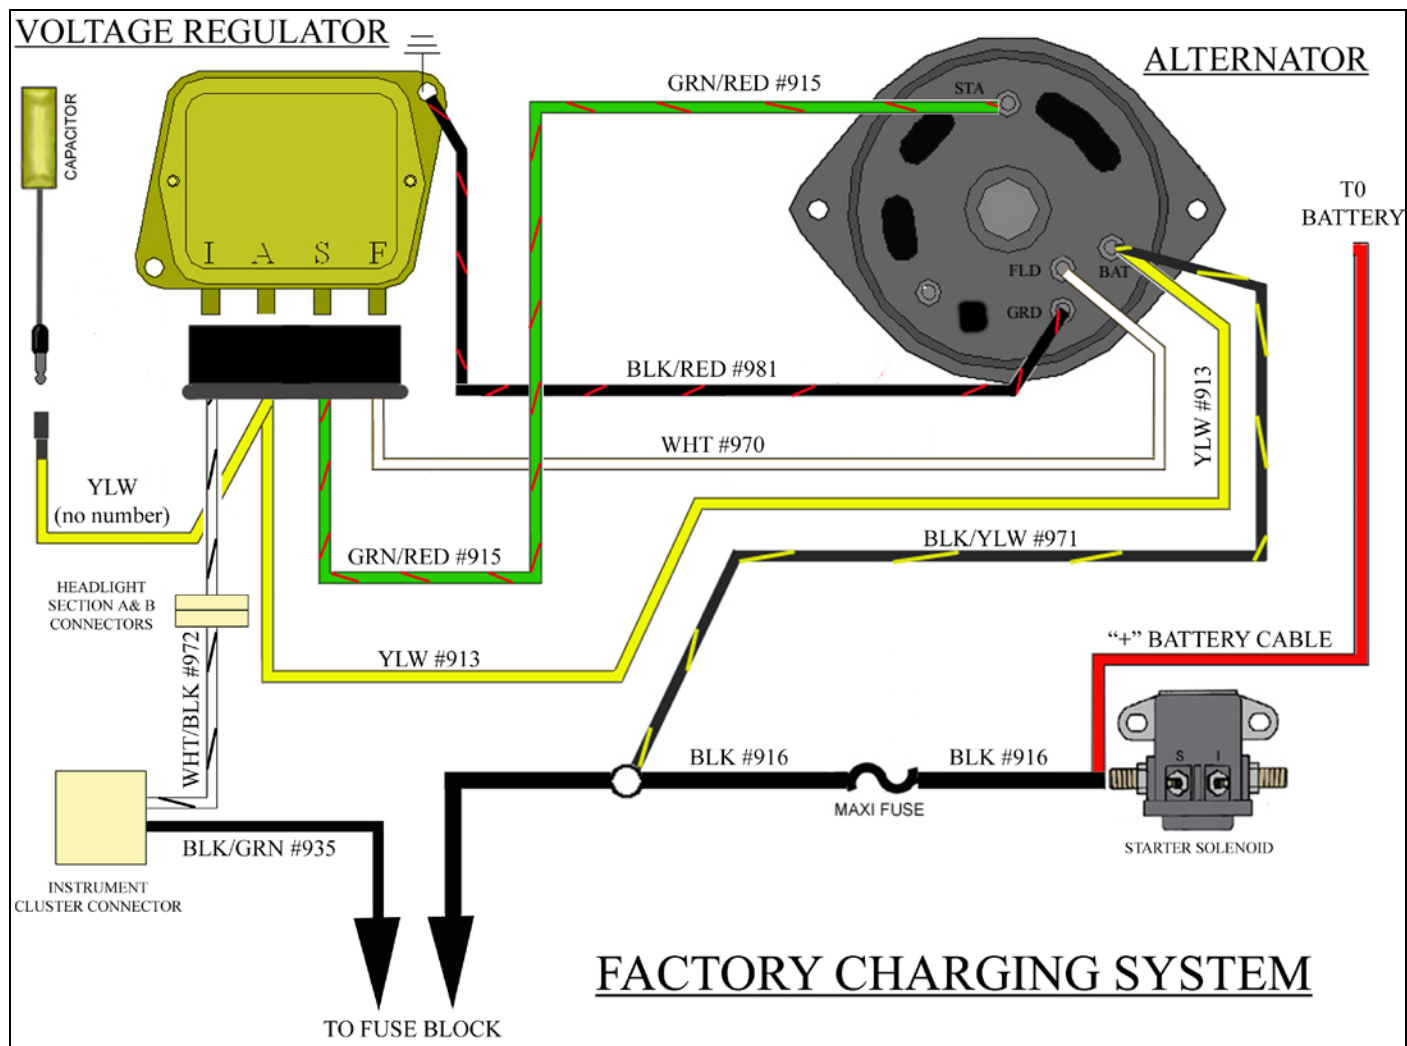

Figure 9 Ford Alternator
With the alternator wires of Headlight Section B routed over to the Alternator, connect them as described below and as shown in **Figure 9**.
Note: Your Alternator may not appear exactly as represented in **Figure 9**. The circuits are wired the same way, though.
- Connect the other #916 "...to the Fuse Block" wire to the other side of the Maxi Fuse. The red wire will only be used by those using an Ammeter. It will double with the #916 Fuse block wire, see **Figure 9**.